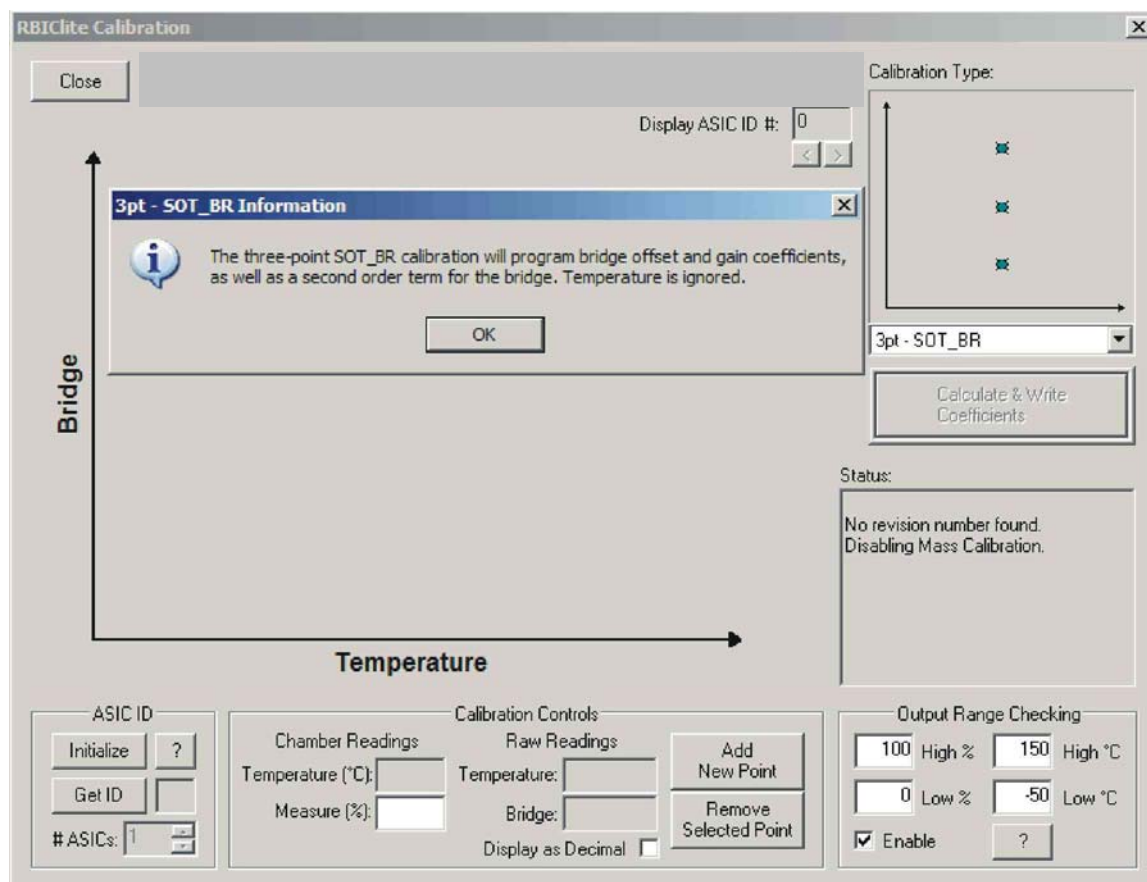

Figure 4.2 – Calibration Window
Under “Calibration Type” in the upper right section of the calibration screen (Figure 4.2), there is a smaller graph (X-axis = Temperature, Y-axis = Bridge (pressure for this example)). This graph outlines the recommended spread of points (pressure for this example and temperature) to be used for calibration.
- 6.) Click on “Calibration.” The calibration window appears (Figure 4.2).